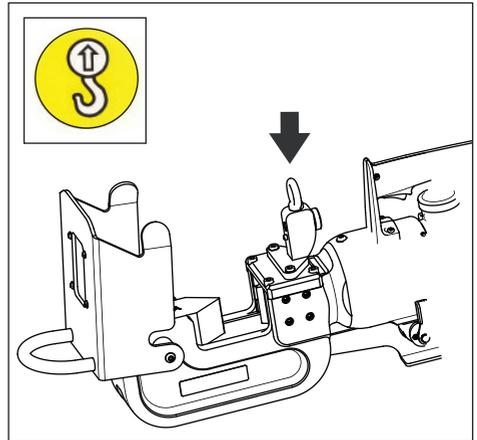

Figure 9, Cutter Lifting Location
- If it is necessary to move or transport the cutter, use only the supplied lifting eyebolt. See Figure 9. Use appropriately rated lifting equipment.